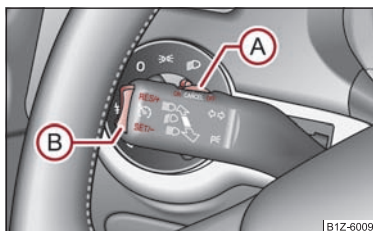

Fig. 88 Operating lever: Rocker button and switch of cruise control system
- Press the switch **A** ⇒ fig. 88 into the position **ON**.
- You can **increase** the stored speed without depressing the accelerator, by pressing the rocker button **(B)** ⇒ page 82, fig. 88 in the **RES** position.
You can **resume** the stored speed by releasing the brake or clutch pedal and by pressing the button **(B)** ⇒ page 82, fig. 88 in the position **RES**.
- Press the switch **(A)** ⇒ page 82, fig. 88 to the right into position **OFF**. ■